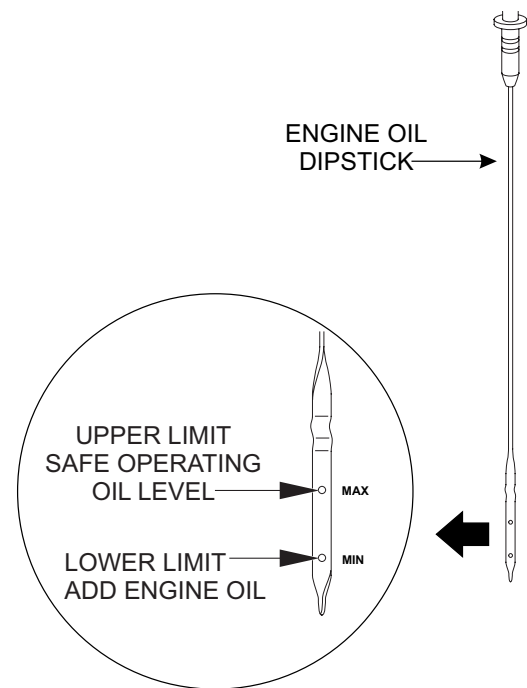

Figure 41. Checking Engine Oil Level
8. Replace engine oil with recommended type oil as listed in Table 6. For engine oil capacity, see Table 2 (engine specifications). Fill to upper limit as shown in Figure 41.